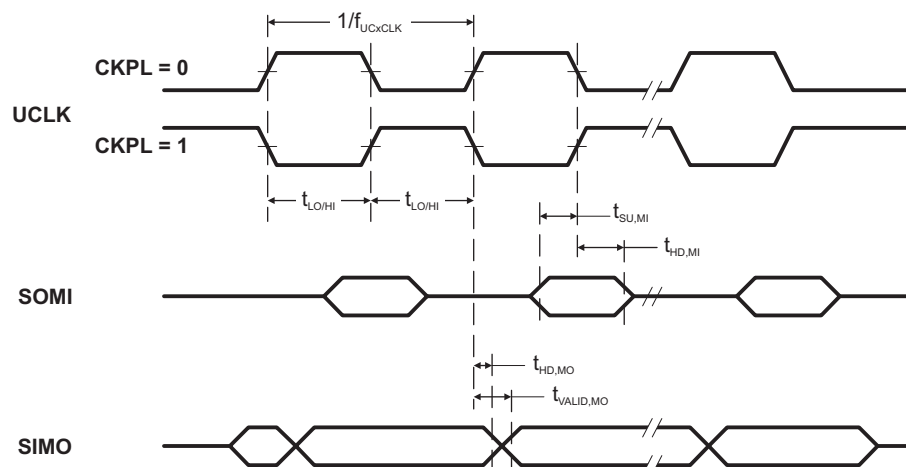
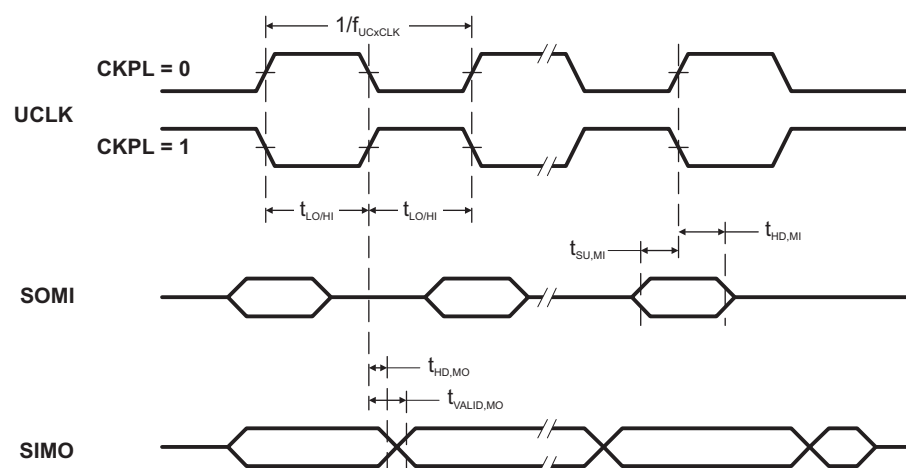

Figure 12. SPI Master Mode, CKPH = 0
Figure 13. SPI Master Mode, CKPH = 1
(see Note ⁽¹⁾, Figure 12 and Figure 13)
- (1) f_{UCxCLK} = 1/2t_{LO/Hi} with t_{LO/Hi} ≥ max(t_{VALID,MO(USCI)} + t_{SU,SI(Slave)}, t_{SU,MI(USCI)} + t_{VALID,SO(Slave)}). For the slave's parameters t_{SU,SI(Slave)} and t_{VALID,SO(Slave)} see the SPI parameters of the attached slave.
- (2) Specifies the time to drive the next valid data to the SIMO output after the output changing UCLK clock edge. See the timing diagrams in Figure 12 and Figure 13.
- (3) Specifies how long data on the SIMO output is valid after the output changing UCLK clock edge. Negative values indicate that the data on the SIMO output can become invalid before the output changing clock edge observed on UCLK. See the timing diagrams in Figure 12 and Figure 13.
- (1) $f_{UCXCLK} = 1/2t_{LO/HI}$ with $t_{LO/HI} \geq \max(t_{VALID,MO(Master)} + t_{SU,SI(USCI)}, t_{SU,MI(Master)} + t_{VALID,SO(USCI)})$. For the master's parameters $t_{SU,MI(Master)}$ and $t_{VALID,MO(Master)}$ see the SPI parameters of the attached slave.
- (2) Specifies the time to drive the next valid data to the SOMI output after the output changing UCLK clock edge. See the timing diagrams in Figure 12 and Figure 13.
- (3) Specifies how long data on the SOMI output is valid after the output changing UCLK clock edge. See the timing diagrams in Figure 12 and Figure 13.